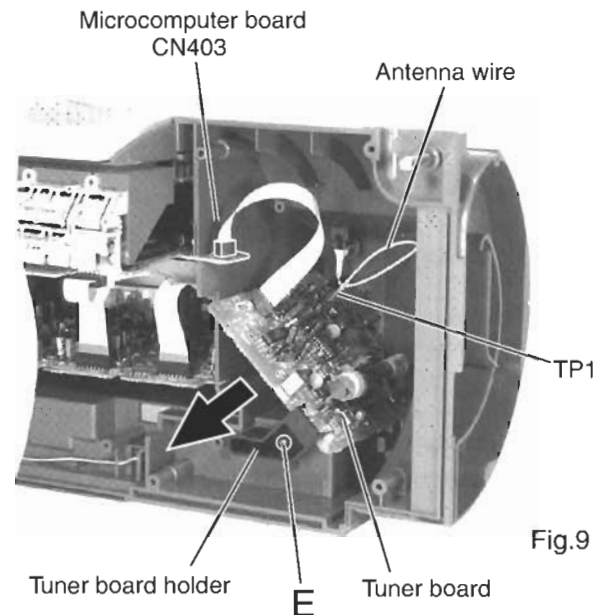

Fig.9
■ Removing the Tuner Board (See Fig.9)